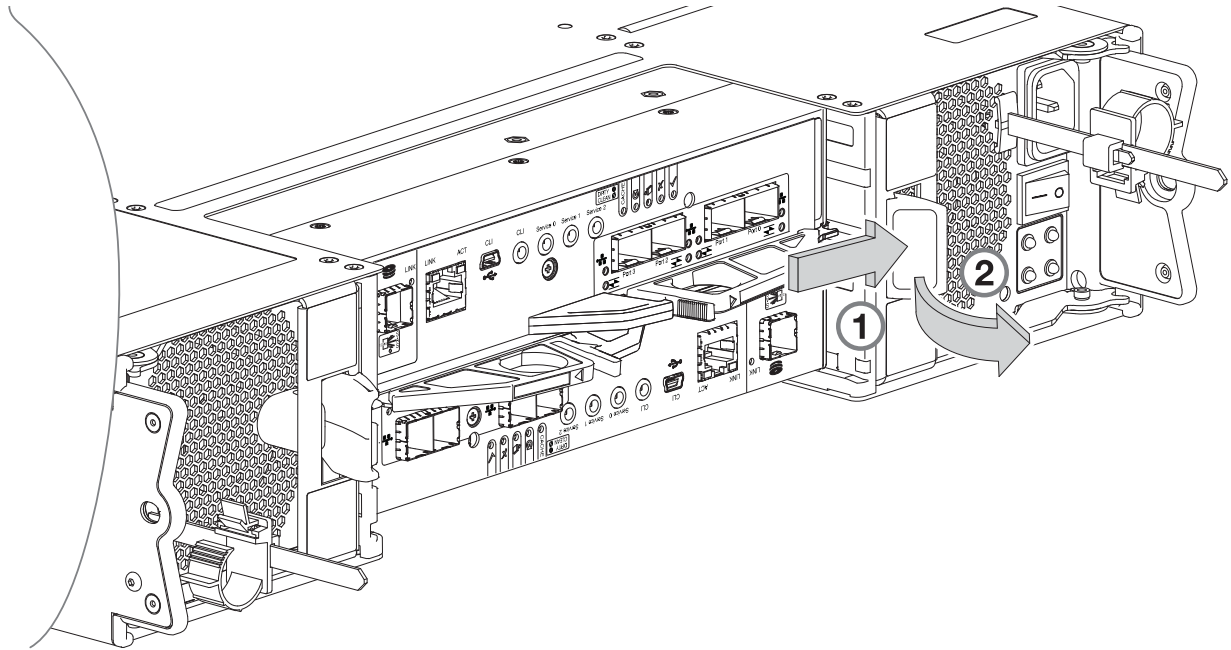
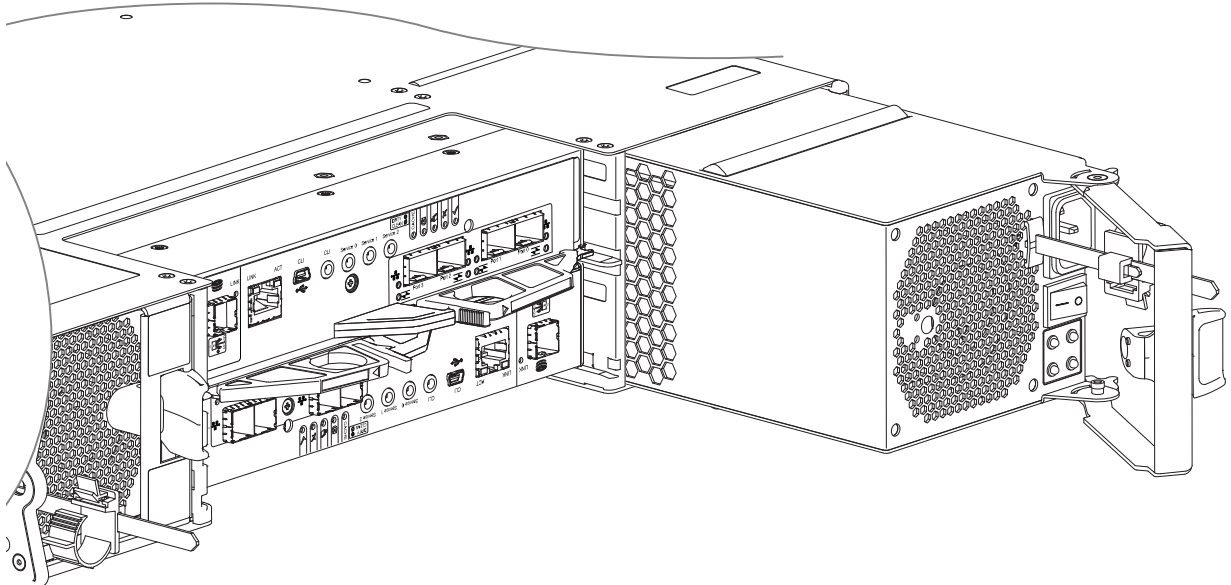

Figure 86 Removing a PCM (1 of 2)
Figure 87 Removing a PCM (2 of 2)
7. Grasp the latch and the side of the PCM handle between thumb and forefinger, squeeze together and open the handle to cam the PCM out of the enclosure as shown in Figure 86.
8. Grip the handle and withdraw the PCM, taking care to support the base of the module with both hands as you remove it from the enclosure as shown in Figure 87.
Refer to Figure 86 \(page 112\) and Figure 87 \(page 112\) when performing this procedure, but ignore the directional arrows—since you will insert the module into the slot—rather than extracting it.